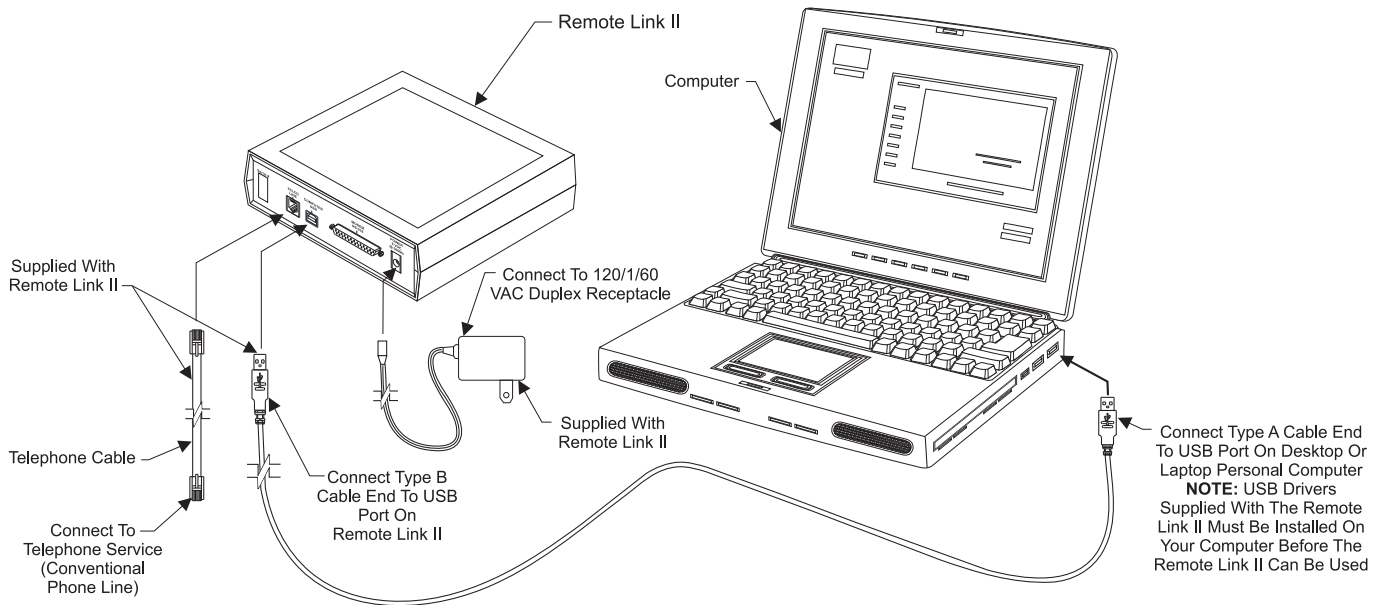

Figure 3: Remote Link II Installation at Remote Dial-Out Site Using USB Connection
- Step 2: **At the remote dial-out site**, connect the Remote Link II to your PC using either a serial cable connection or USB cable connection. *See Figures 3 and 4 on page 11.*
Step 3: At the remote dial-out site, connect the Remote Link II to your PC using either a serial cable connection or USB cable connection. *See Figures 3 and 4 on page 11.*